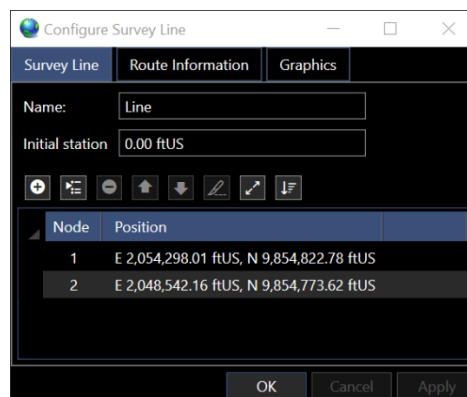

FIGURE 8-55 WINDOWS – 2D MAP - CONFIGURE SURVEY LINE DIALOG
- The respective configuration dialog will appear, for example, if Create Survey Line is selected the Configure Survey Line dialog as shown in Figure 8-55 will appear.